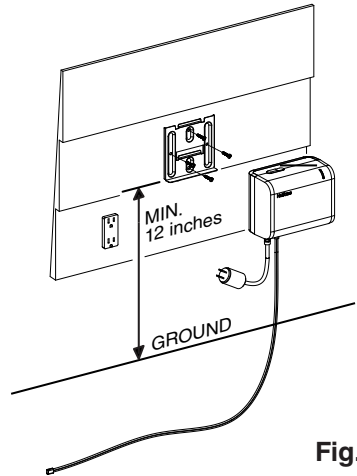

Fig. 2
3. Screw plate to wall through four holes using M4 x 14mm wood screws provided. (Fig. 2)